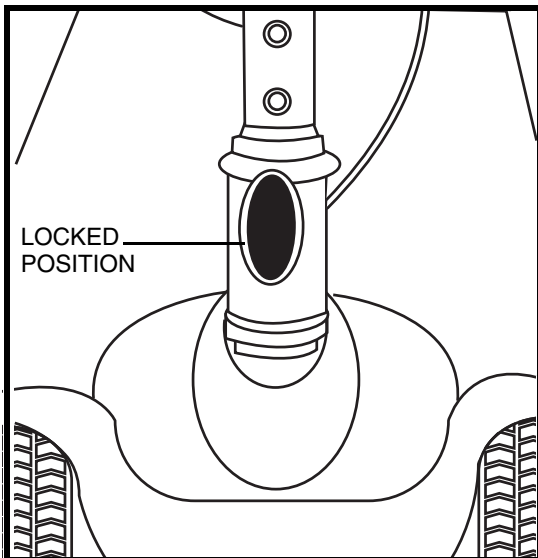

Figure 25. Tiller Lock knob (Locked)
1. Lock the tiller in the straight ahead position by pushing the tiller lock knob in and turning it clockwise 90°. See **figure 25**. The front wheel must face forward in order to lock the tiller.